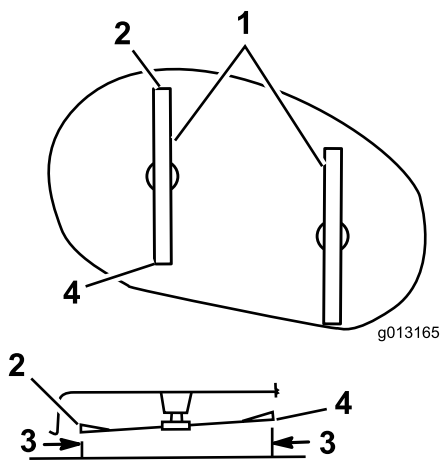

Figure 48
Carefully rotate the blades front to rear (Figure 48).
7. Measure the distance between the front tip of the left blade and the flat surface (Figure 48).